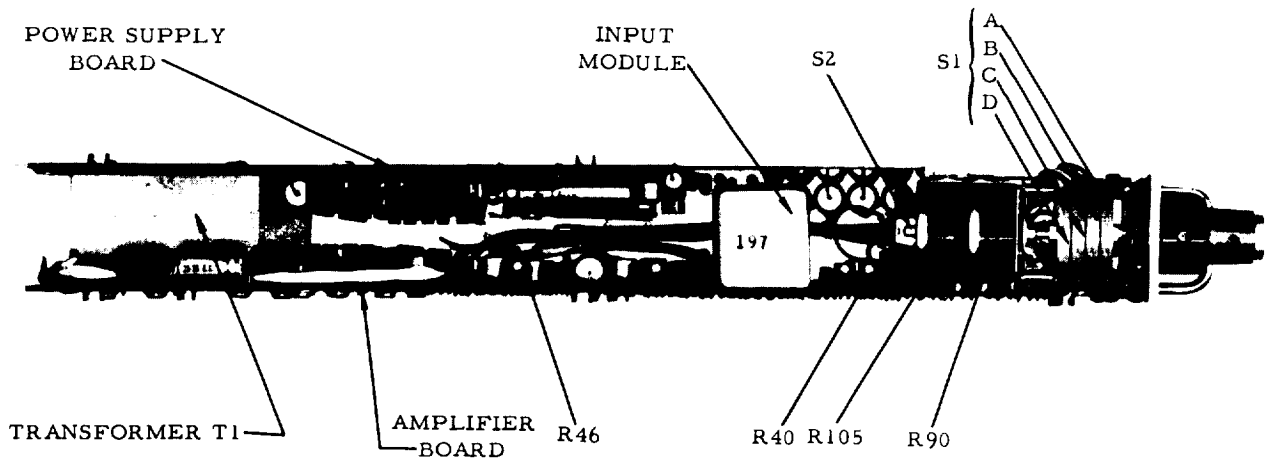

Figure 9. Top View of Model 1300 Differential DC Amplifier (Case Removed)
3.3 Functional Operation of Major Assemblies (Figure 12). Most of the circuitry for the model 1300 amplifier is mounted on two etched circuit boards designated as the amplifier board and power supply board, respectively. (See figure 9.)
- (3) Plug the amplifier into a single unit adapter, apply primary power and allow a 30-minute warmup period.
- (4) Connect the amplifier output to a digital voltmeter (Cubic Model V71 or equivalent) and check that the amplifier output is within  $\pm 2$  mv of ground for each position of GAIN selector switch S1.
- (5) If the output exceeds  $\pm 2$  mv, adjust potentiometer R46 (figure 9) as required. If the amplifier output cannot be adjusted to within  $\pm 2$  mv by means of R46, the amplifier should be returned to the factory for maintenance.
- (6) Disassemble the test setup.